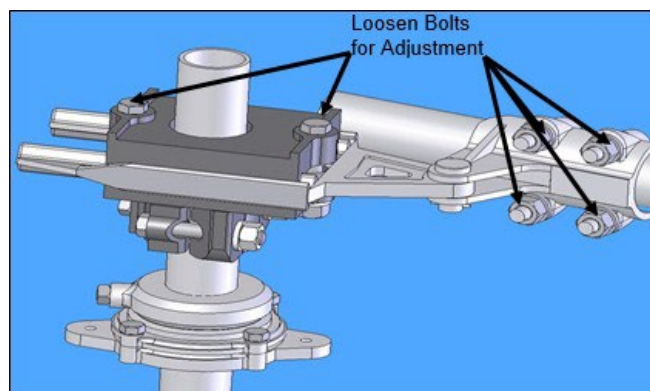

Figure 15: Adjustable Arm Assembly
- 6.5.3.5 Lengthen the adjustable radius arm approximately ¼ inch. Allow the pipe clevis to reposition itself the same ¼ inch. Refer to **Figure 15**.
- 6.4.4.5. Shorten the adjustable radius arm approximately $\frac{1}{4}$ -inch. Allow the pipe clevis to reposition itself the same $\frac{1}{4}$ inch. Refer to **Figure 15**.